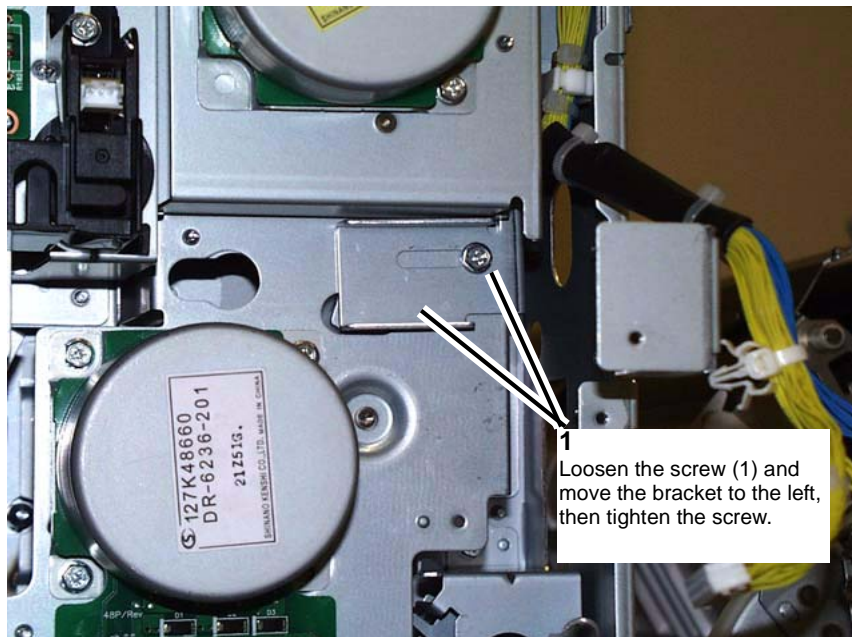

Figure 7 Moving the bracket to the left
10. Move the bracket to the left. (Figure 7)